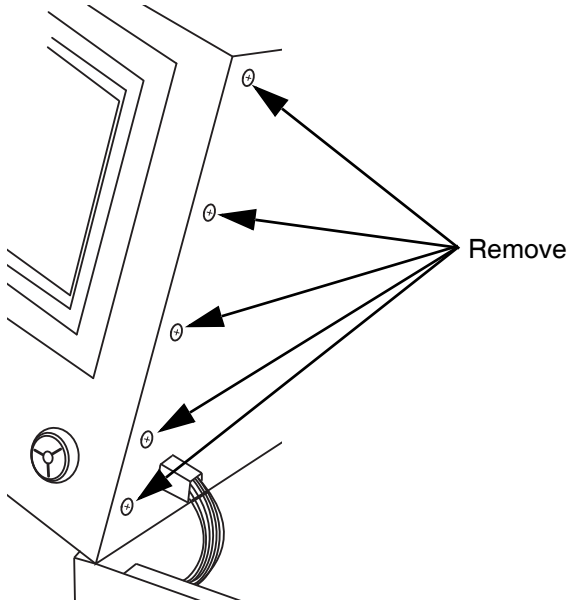

FIG. 4: Disconnect the Front Panel
7. Disconnect the front panel from the control box by removing the five screws shown in Figure 4. This provides easier access to the HMI.